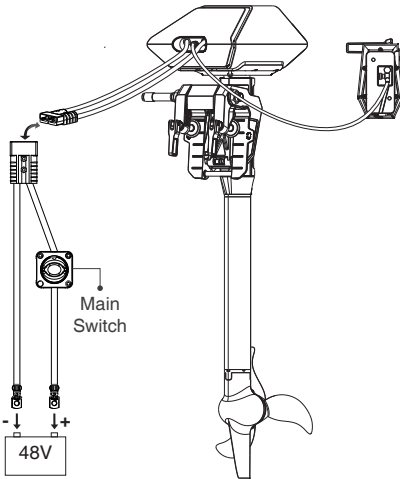
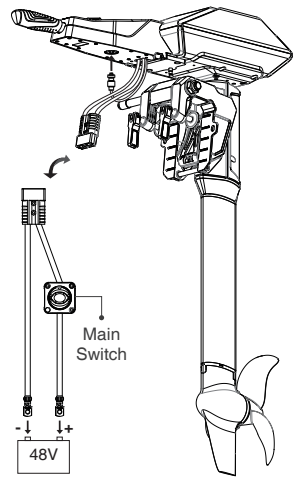

Figure 5-15
Figure 5-16
- Step2:** Connect NAVY outboard and Remote Control/Tiller Handle with a communication cable. Please refer to Figure 5-15 or Figure 5-16.